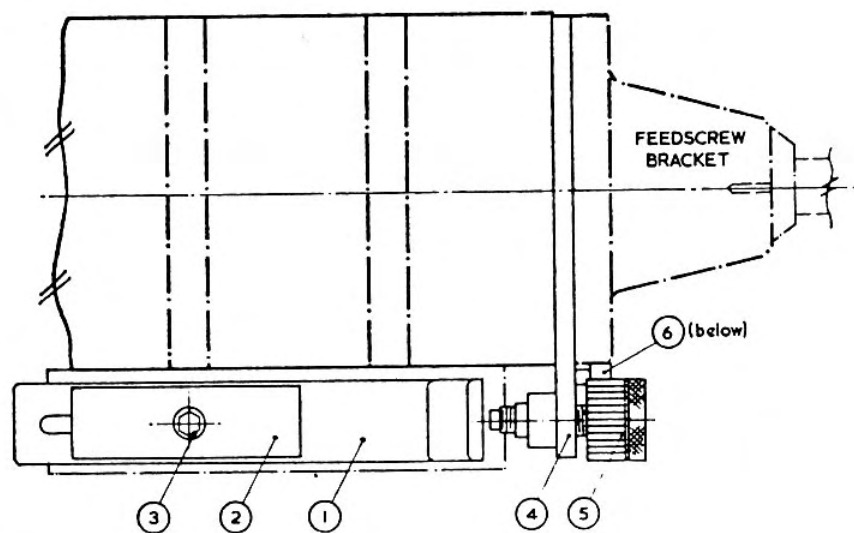

Fig. 3.11 Arrangement of the screwcutting depth stop.
Fig. 3.11 shows the arrangement. The slide-bar (A) is provided with a slotted hole and is held by the Allen screw and strong-back washer (2) (3) using the hole in the saddle to which the travelling steady is attached. This bar is adjusted to suit the diameter of the workpiece, and that shown will allow for cylinders up to  $3\frac{7}{8}$  in. diameter. The bracket (4) is slipped in between the end of the cross-slide and the feedscrew bracket, and has a tapped boss at one end to carry the stop-screw (5). This has 40 tpi, and the head is engraved with 25 serrations engaging with the click spring (6). Thus one click